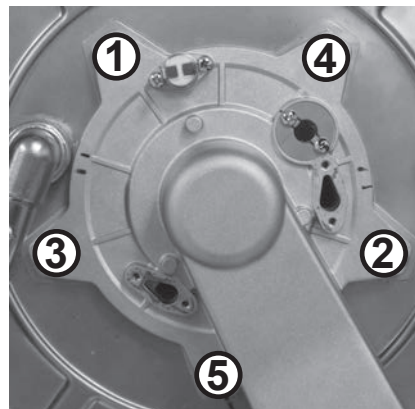

Figure 118 - Remove burner door hex nuts
- 16** Locate the five (5) hex nuts securing the burner door assembly to the heat exchanger as shown in Figure 118. Use a 10 mm hex socket to remove hex nuts. Place hex nuts aside in a safe location for reinstallation.
NOTICE: Star pattern in Figure 118 above **MUST** be followed during reinstallation of screws to burner door assembly.
- 29** Install burner door assembly over bolts in heat exchanger. Locate the five (5) hex nuts previously removed in **Step 16**. Hand tighten the hex nuts, then use a 10 mm hex socket to tighten each nut in a star pattern as indicated by the numbers (1-5) adjacent to the bolt holes. Torque hex nuts to 7.4 ft-lbs. (10 Nm). See Figure 118 as reference.